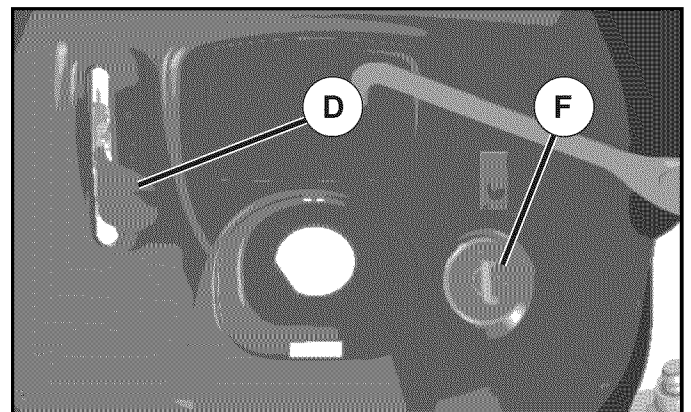

Fig. 6
TO USE THROTTLE CONTROL (D) (See Fig. 6)
TO MOVE FORWARD AND BACKWARD (See Fig. 6)